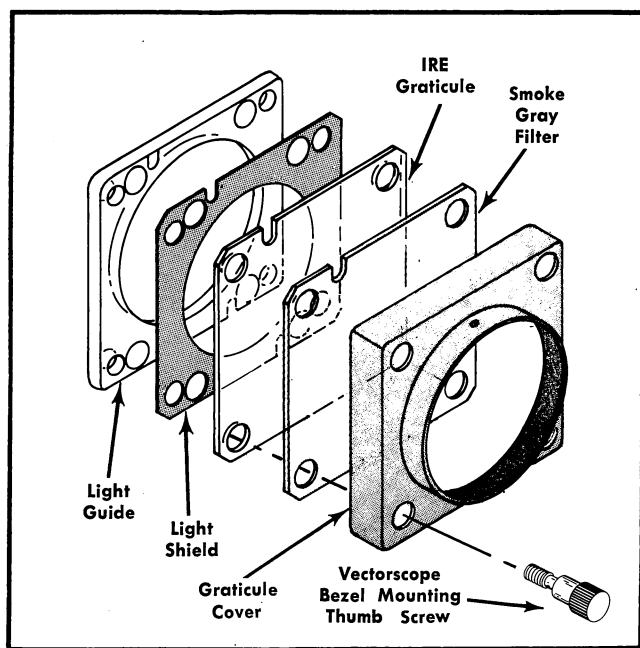

Fig. 2-27 Arrangement of parts when re-installing the graticule cover.
17. After completing the picture taking and the use of the camera, remove the camera and bezel. Re-install the graticule cover with all its associated parts (see Fig. 2-27) on the front of the Vectorscope CRT.